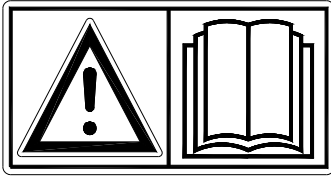

Fig. 1
**Read and understand** (Fig. 1) the manual before proceeding to use the Verti-Quake®.